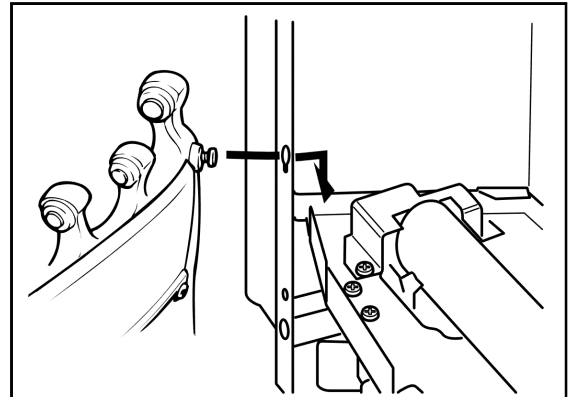

Figure 35. Firefront casting location
1. Locate the two screw heads through the keyhole slots at the inner sides of the surround. If the screw heads do not project enough or project too far, the screws can be adjusted. Lower the casting so that it rests on the hearth. See figure 35.